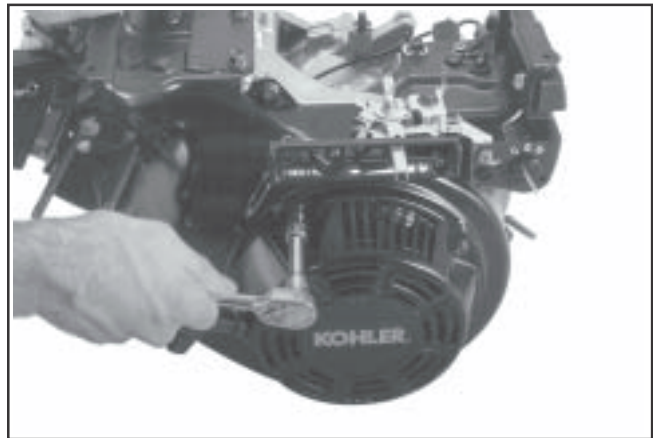

Figure 9-18. Removing Starter Mounting Screws.
1. Remove the hex flange screws securing the retractable starter to the blower housing. See Figure 9-18.